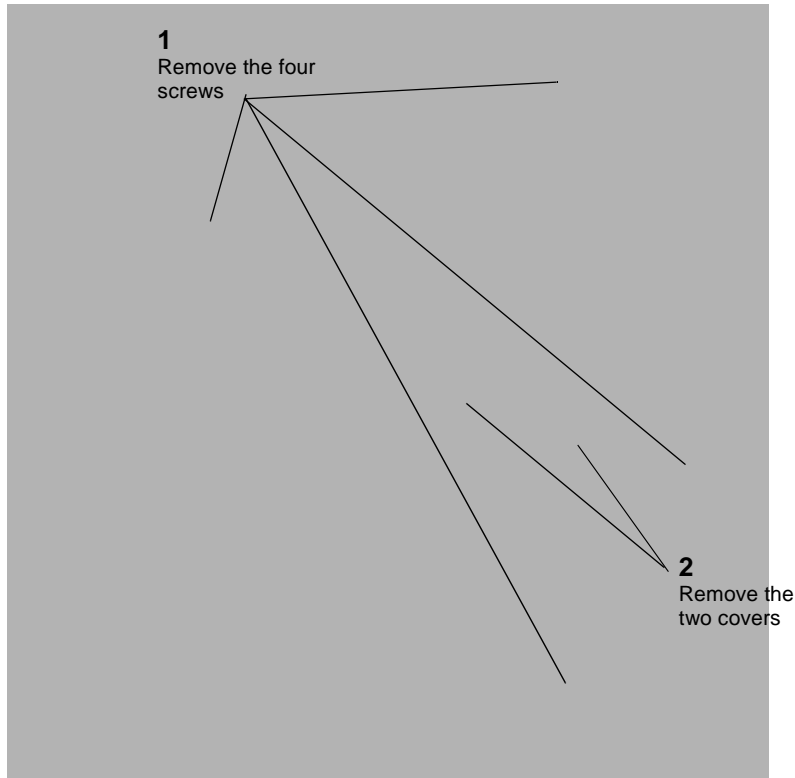

Figure 1 Removing the Covers
2. (Figure 1): Remove the Rear Cover and the Access Cover.